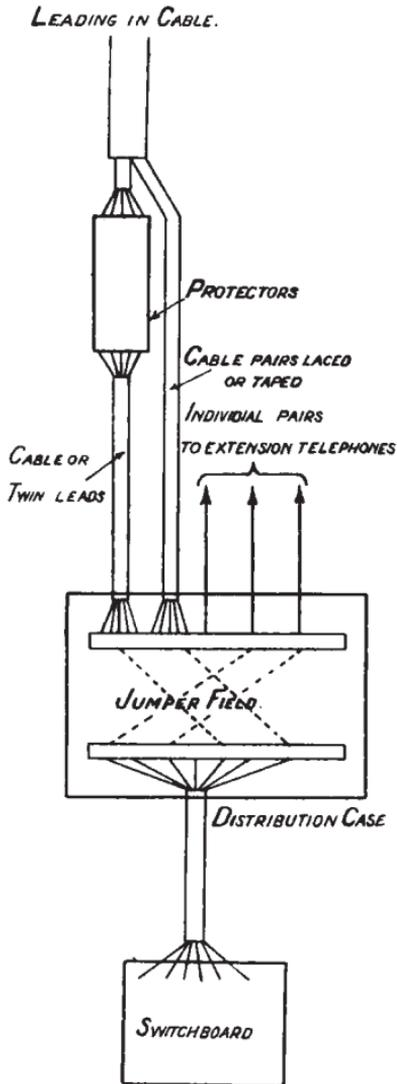

Fig. 1.
*Class 1.*- A typical lay-out for wiring such installations is illustrated in Figure 1.
The lay-out in Figure 1 shows the external circuits led in on one cable, and divided into two groups - (a) Circuits requiring protection led through protectors, (b) Circuits not requiring protection led direct to the distribution case.